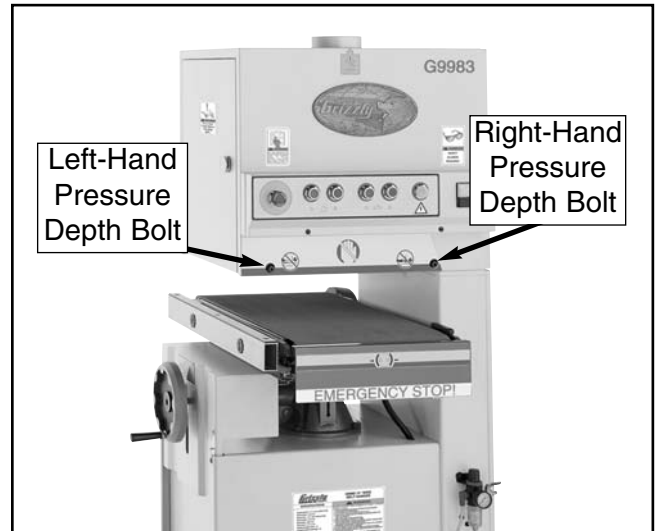

Figure 24. These are the pressure roller depth bolts at the front of the machine. *The rear depth bolts are in the same location at the rear.*
3. Place one board along the length of the conveyor belt on the right-hand side so it is directly beneath both front and back pressure roller depth bolts. Place the other board on the left-hand side so it is directly beneath both front and back pressure roller depth bolts. **Figure 24** shows the front left-hand and front right-hand pressure roller adjustment bolts.